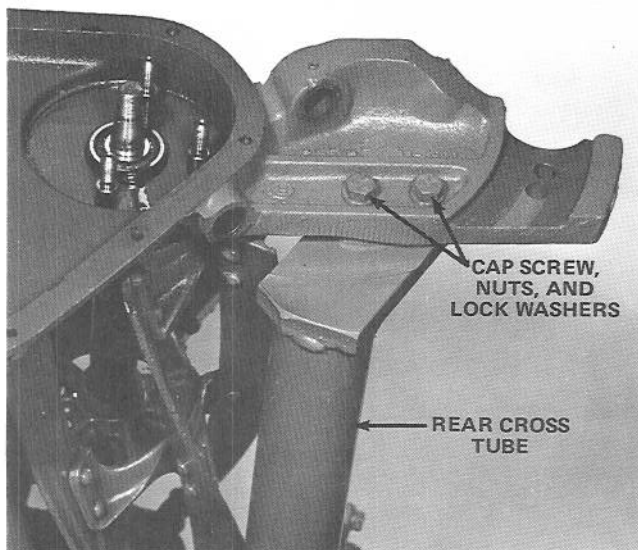

Figure 36
18. Remove cap screws, nuts, and lockwashers securing rear cross bar (Fig. 36).